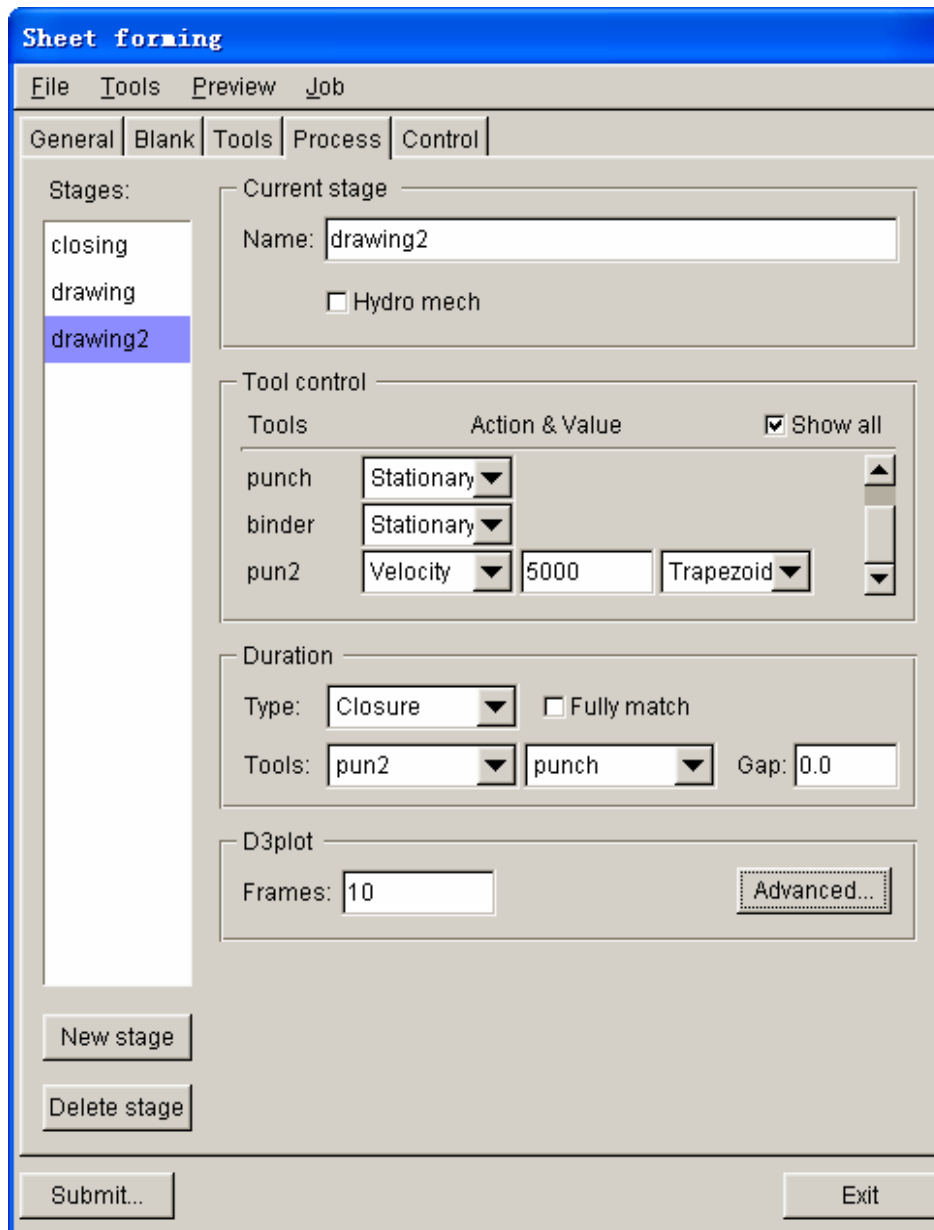

Figure 5.74 Drawing2 process definition
4. Toggle on the **Show all** checkbox to display all tools, as illustrated in Figure 5.74.
6. Next, select **Closure** as the type of duration. As shown in Figure 5.74, **pun2** is moving toward **punch**.